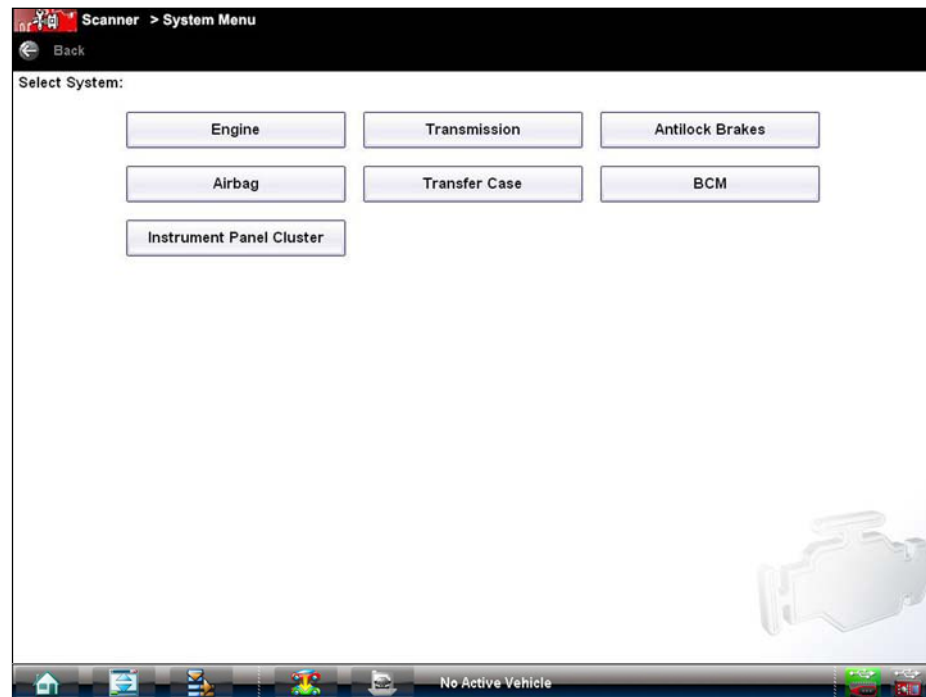

Figure 4-7 Sample available tests list
5. Select a test to continue (Figure 4-7).